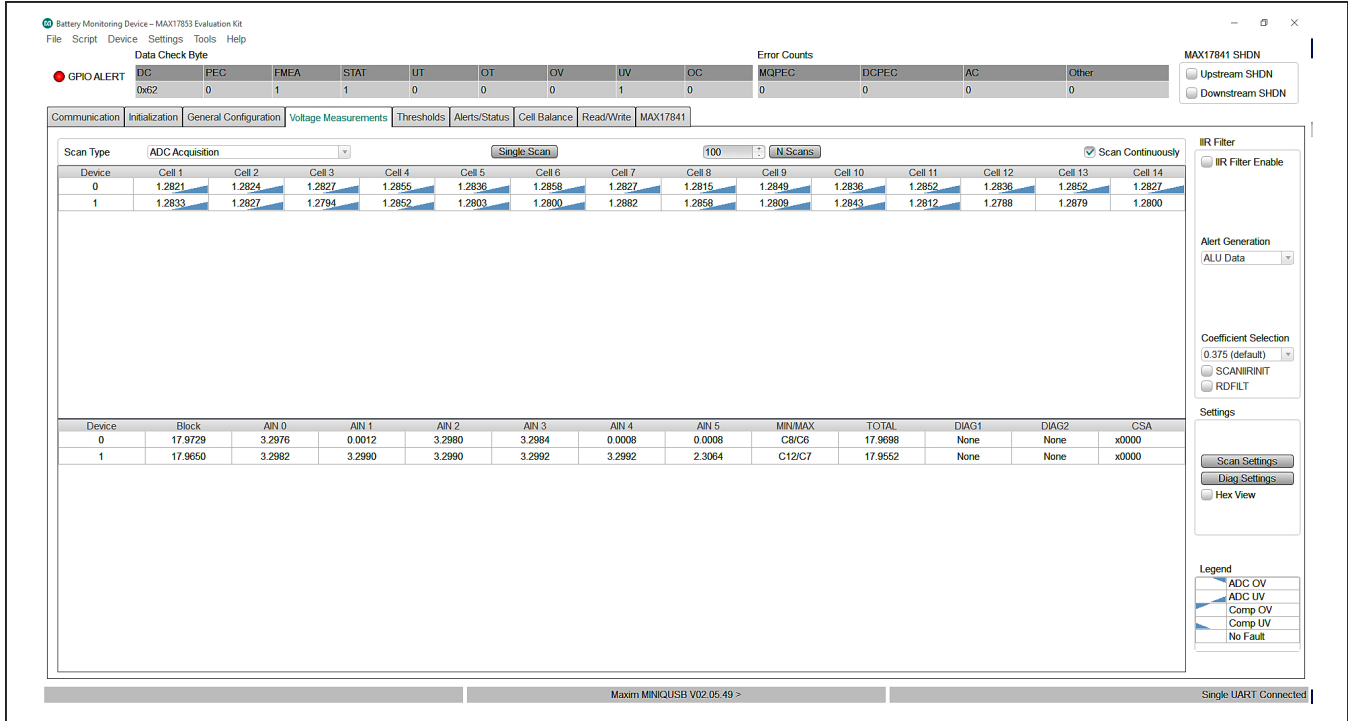
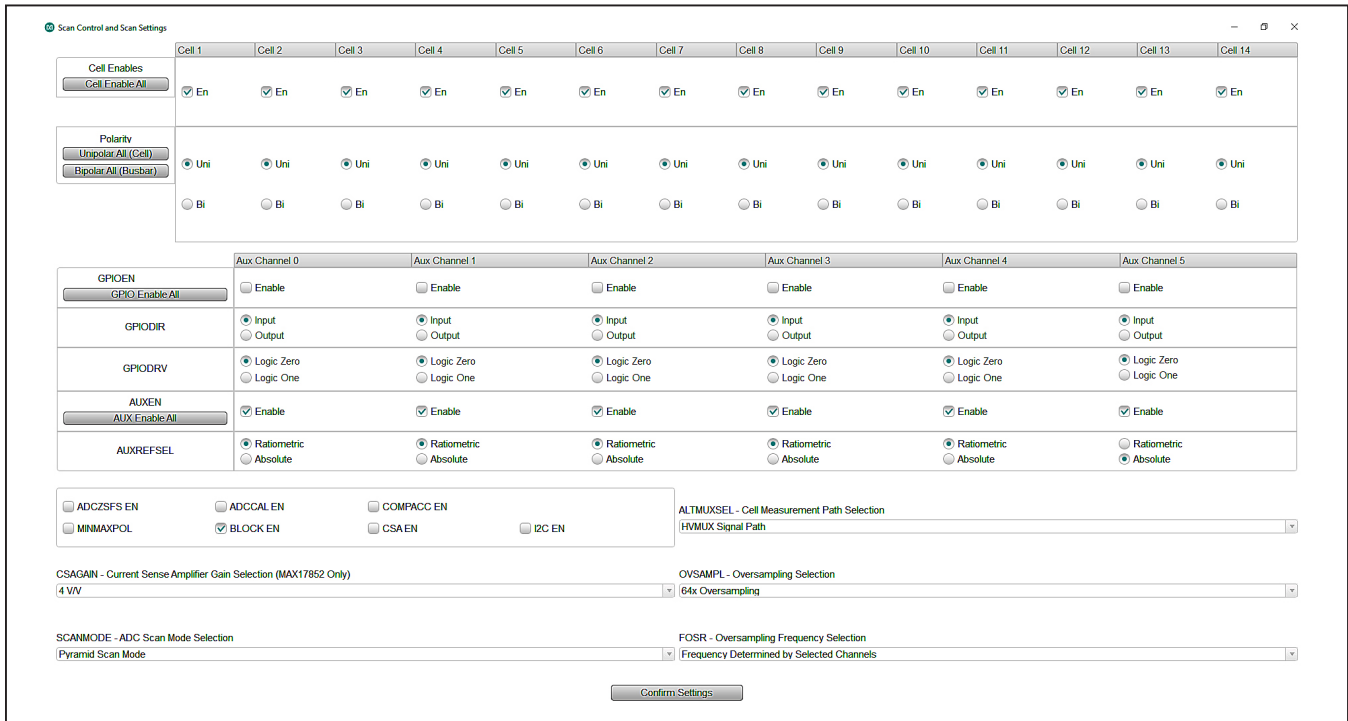
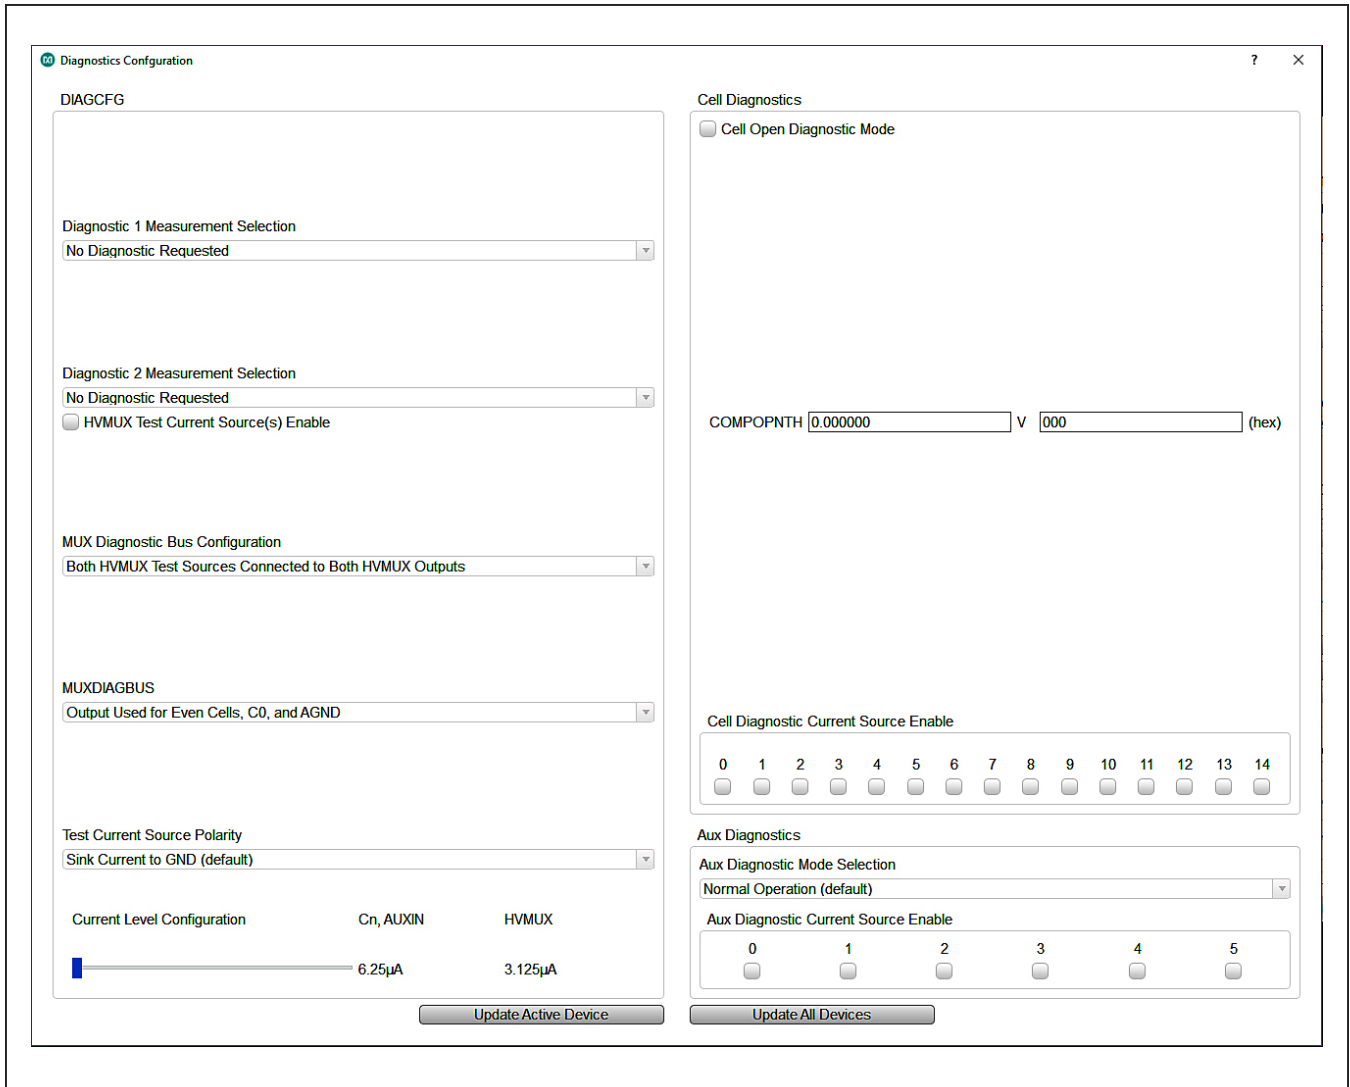

Figure 15. Voltage Measurements Tab
Figure 16. Scan Settings Panel
Figure 17. Diagnostic Settings Panel
The **Voltage Measurements** tab (see Figure 15) is the user interface for visually monitoring all cell measurement and AUX conversion values in the battery monitoring system. In addition, the **Voltage Measurements** tab can be constructed to display a visual indication of cell ADC OV/UV, comparator OV/UV, and communication alerts.
In the **Voltage Measurements** tab, the **Scan Settings** and **Diag Settings** buttons in the **Settings** group box on the right side of the GUI open into individual settings panels (see Figure 16 and Figure 17).
The following procedure describes how to use the GUI and EV kit to make **Cell Voltage** measurements and observe measurement and comparator OV/UV alerts in the **Voltage Measurements** tab (Figure 15).
- 3) Select the **Voltage Measurements** tab (Figure 15) and click on the **Scan Settings** button in the **Settings** group box to open the **Scan Settings** panel (Figure 16). First click the **Cell Enable All**, **Unipolar All (Cell)**, **BLOCK EN** checkboxes, and select **64x OVSAMPL** from the OVSAMPL a drop-down list at the bottom of the panel, and then click the **Confirm Settings** button.
- 4) Select the **Voltage Measurements** tab (Figure 15) and in the upper left corner, set the **Scan Type** to **ADC and Comparator Acquisition**, and then select the **Scan Continuously** checkbox. Observe that cell voltage levels are approximately equal in value. At this point, the MAX17853 is continuously reading the voltages across each of the 2kΩ resistors in the resistor ladder. Increasing the power-supply voltage increases the voltage across each of the 2kΩ resistors in the ladder.
- 7) Select the **Voltage Measurements** tab (Figure 15). Verify that voltage measurements are approximately 1.28V and no OV/UV voltage measurements or OV/UV comparator measurements are indicated. Slowly increase the power-supply voltage from 18.0V to 22.0V. Verify that OV voltage and comparator measurements are detected at the user-programmed OV thresholds by comparing the triangular indicator with the **Legend** on the lower right side of the window. The UV voltage and comparator measurements can be verified similarly by decreasing the supply voltage from 18.0V to 14.0V.
- 1) From the **Voltage Measurements** tab (Figure 15), in the **IIR Filter** group box, click on the **IIR Filter Enable** checkbox.
- 3) To see the dynamic effect of the IIR filter, set the **OVSAMPL** drop-down list in the **Scan Settings** panel (Figure 16) to **Single Acquisition**, and click the **Confirm Settings** button.